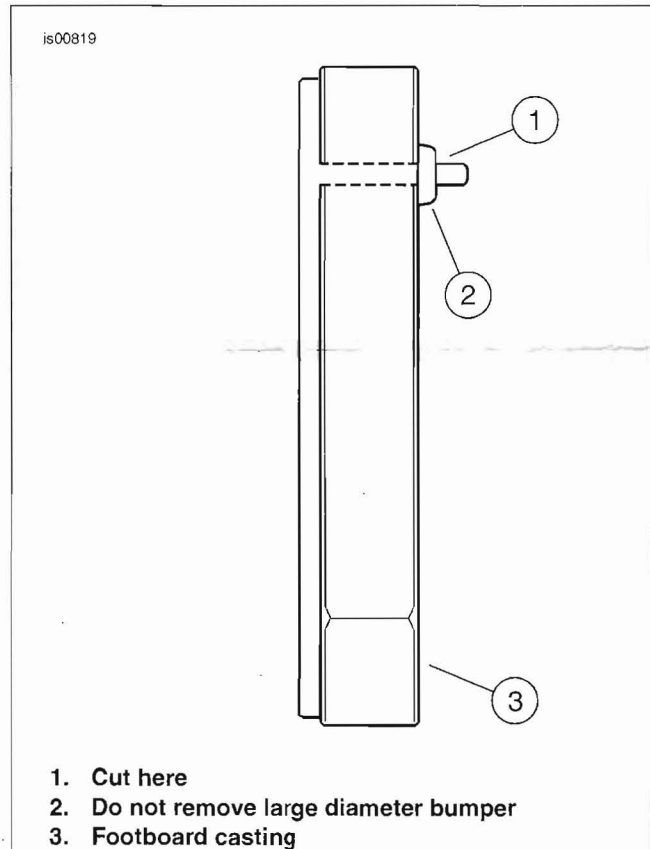

Figure 3. Removing Tip From Rubber Bumper
3. Properly secure footboard (5) in preparation for drilling holes into its underside. Using a 5/32 in. Diameter drill bit, drill a hole into footboard (5) at each center punch point. Be careful to avoid drilling too deeply, which could damage footboard pad (6); however, holes must be deep enough to allow self-tapping screws (7) from kit to be installed without "bottoming" in holes. Use a drill stop tool to control drilling depth (not to exceed 1/2 in. (13 mm) in this case).
4. See Figure 3. If present, remove small diameter long tip of rubber bumpers that protrudes from aluminum footboard casting with knife or cutting pliers.